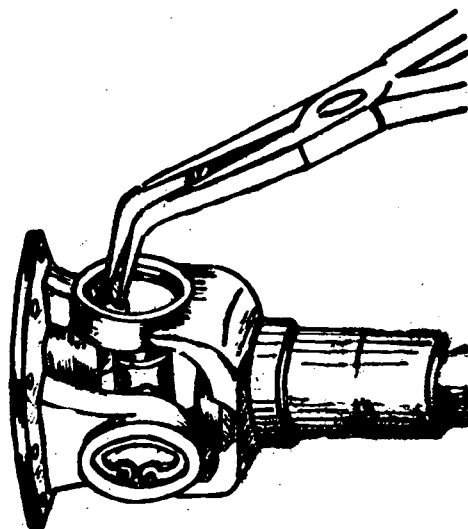

Fig. 1
- b) Remove the circlips (Fig. 1). Use a pair or circlip pliers.